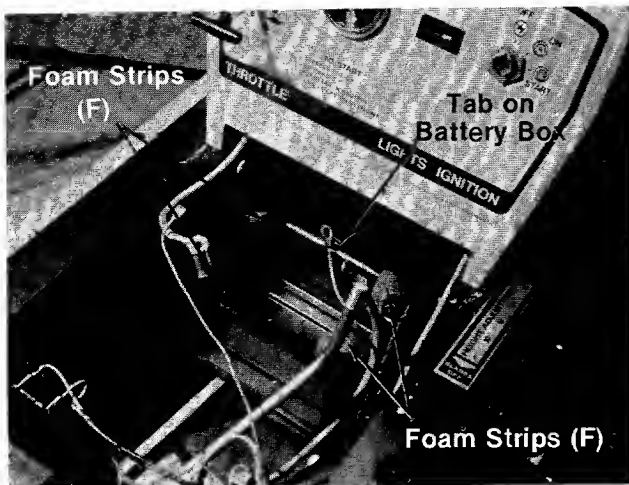
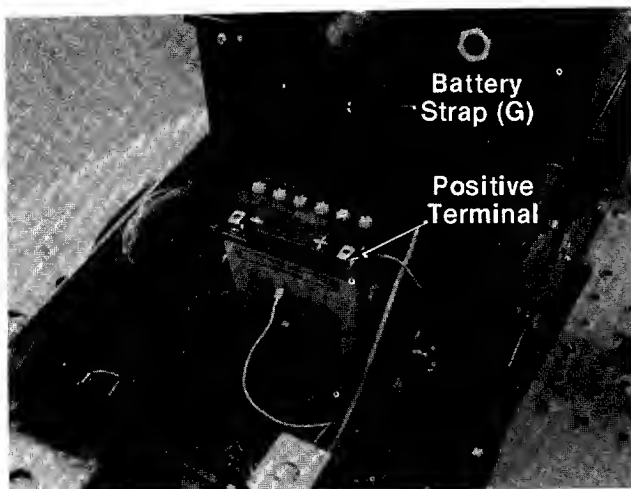

FIGURE 9.
FIGURE 10.
4. Install the four foam strips (F) into the battery box as follows.
- B. Peel the paper off the foam strips to expose the adhesive backing. Press foam strips firmly into the corners of the battery box. See figure 9.
5. Loop one end of battery strap (G) around the tab on battery box shown in figure 9. Hold the battery strap out of the way. Place the battery in the lawn tractor so that the positive terminal is facing the right side of the unit. See figure 10.